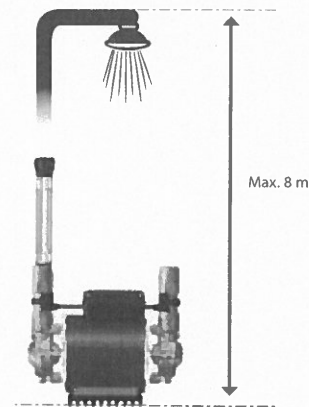

Fig. 33 Maximum static head
- Maximum static head of 8 metres, i.e. the highest point of the system must be less than 8 metres above the pump. See fig. 33.